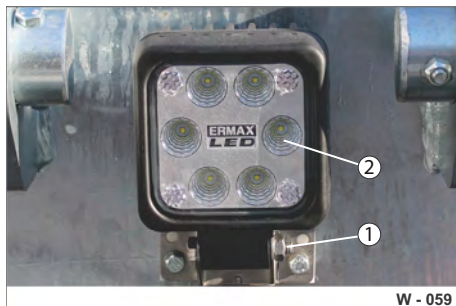

Fig. 69 Outer working light at rear
- Release the fixing screw (Fig. 69/1).
- Remove the LED light (Fig. 69/2).